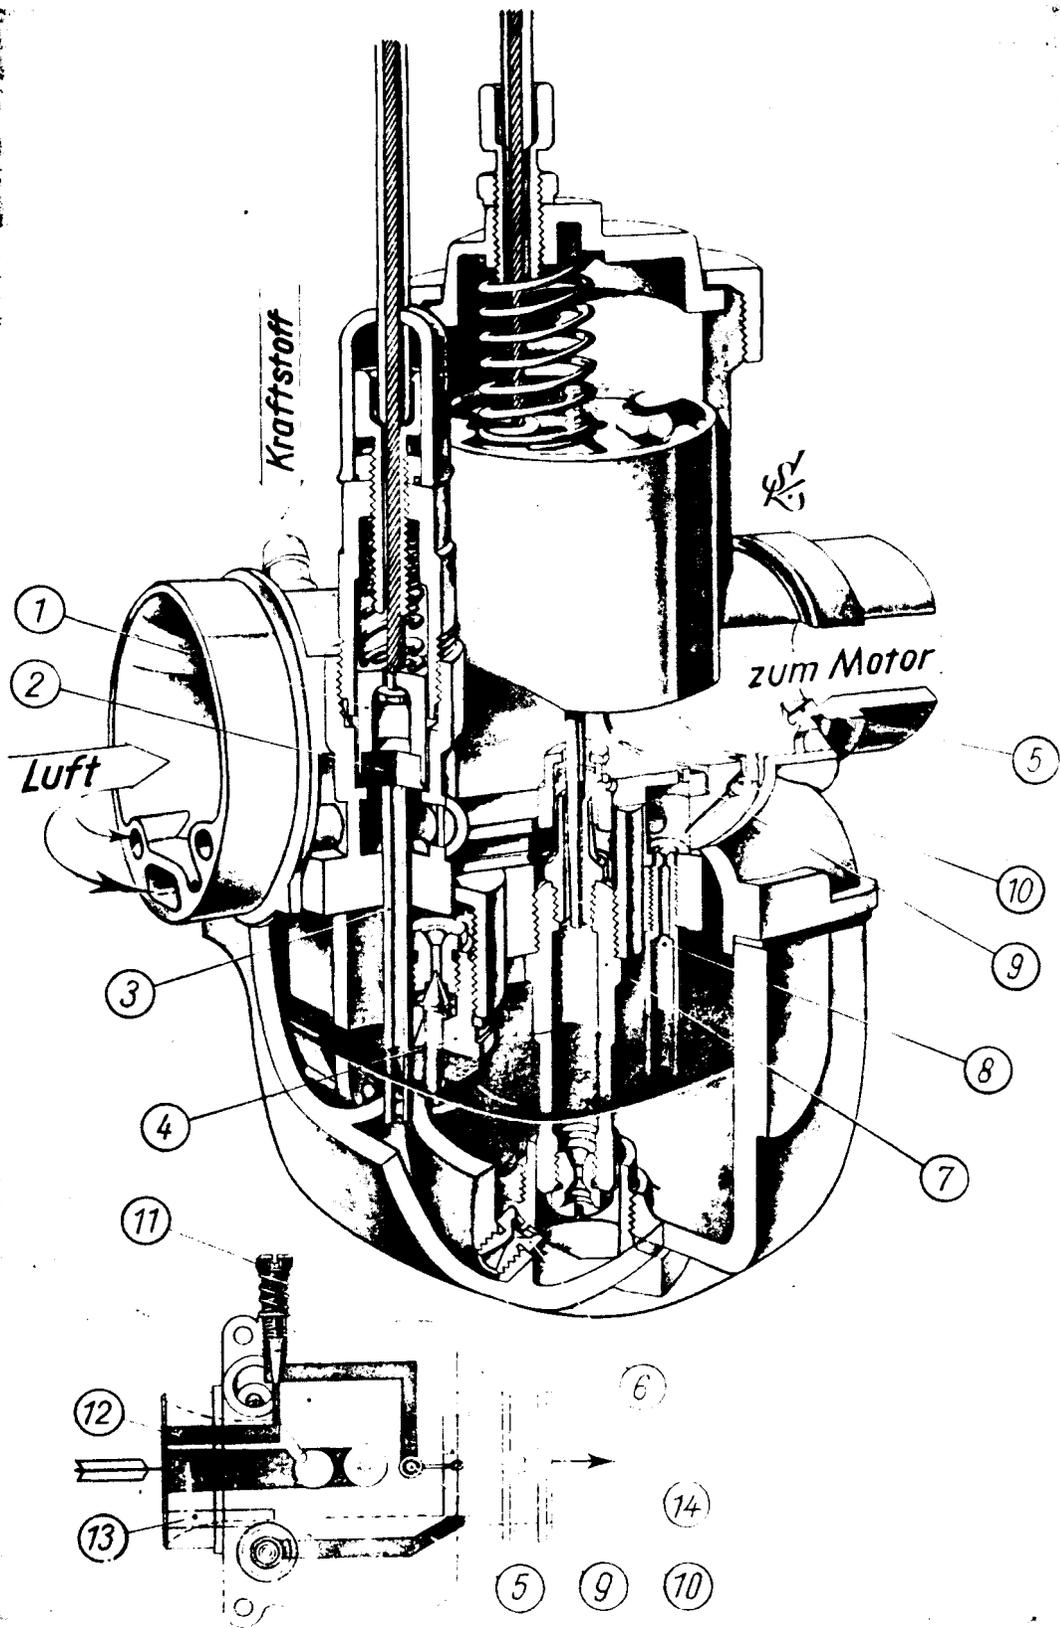

Fig. 122. Starter carburetter, sectional view
When starting from cold, the starter piston is lifted by drawing the starter lever. The fuel in the starter-mixture delivery duct is carried off and sucked up by the engine through the starter duct (5). This duct discharges into the intake pipe behind the throttle valve (see diagrammatic representation, Fig. 122).
The diagrammatic representation shows the arrangement of ducts in a horizontal sectional view (Fig. 122).
The fuel-air mixture for the slow-running range of the carburetter is prepared in the slow-running device comprising the slow-running air screw (11) (see diagrammatic representation in Fig. 122) for dosing the air for slow running and the slow-running fuel jet (8). As in the partial load and full load ranges, in this range, too, the engine must get fuel and air in the correct ratio, i.e. in an ignitable ratio. An excessive supply of air in the slow-running range will result in erratic running of the engine — when suddenly accelerating, the engine will stall.
When the slow-running air screw is almost closed, the engine tends to cycle as a four-stroke engine — a layman then thinks the connecting-rod is defective. Besides good startability, proper transition also depends on the correct setting of this screw. When opening the throttle valve, the transition bore (9) (Fig. 122) becomes effective additionally, but this also depends on the position of the air screw. To ensure smooth running and good road performance, particular attention should be paid to the adjustment of the slow-running device.